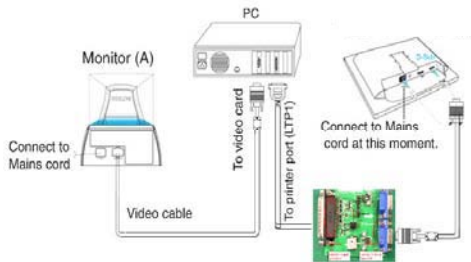

Fig.2
5. Connect and Mains cord to Monitor as shown in Fig.2.